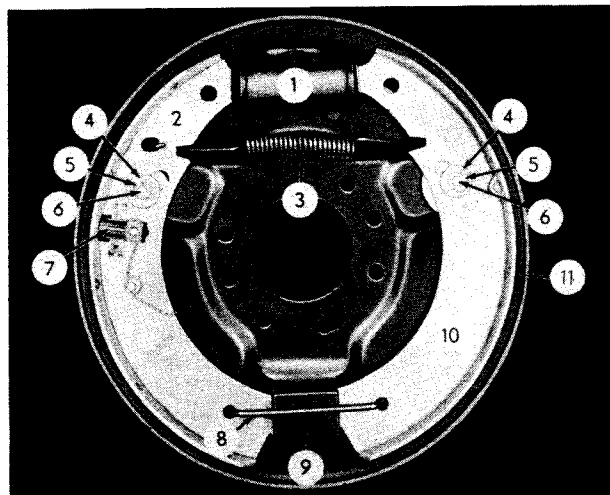

FIG. 3
- There is no shoe return spring for the floating reverse shoes. The only return spring is connected between the forward shoe and the backing plate (3, Fig. 3).